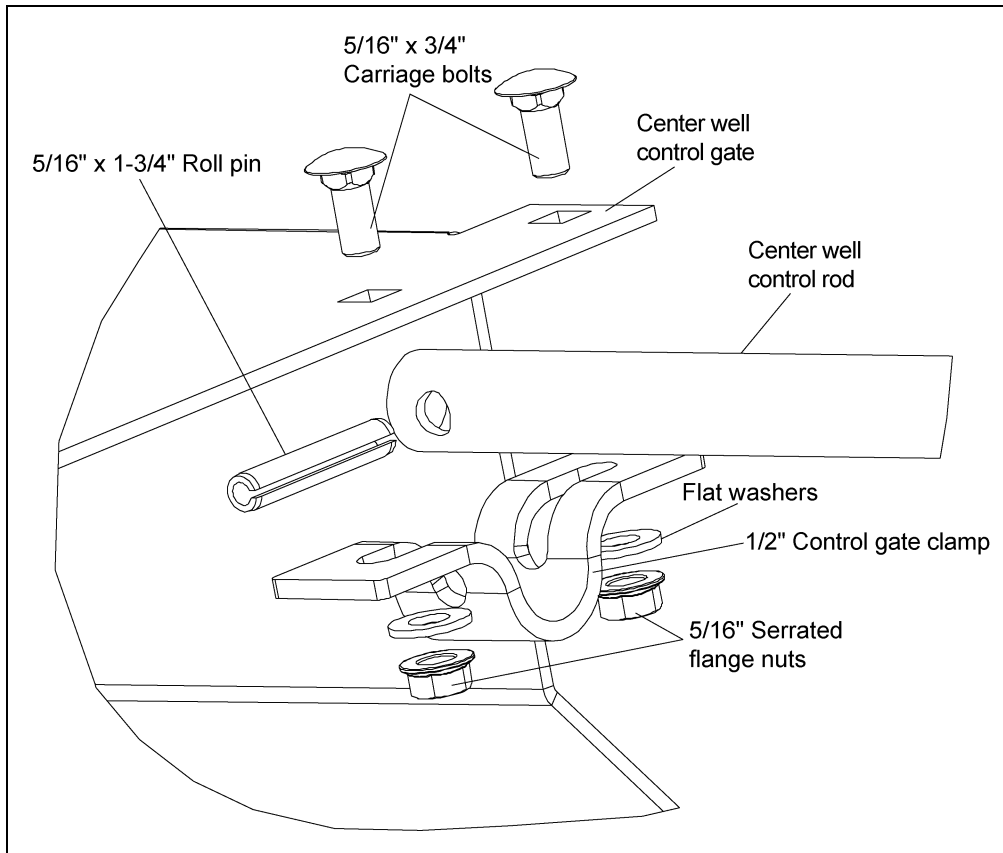

Figure 4N
4. Fasten clamp to bottom side of control gate by using two (2)  $5/16"$  x  $3/4"$  long carriage bolts, flat washers and serrated flange nuts. (See Figure 4N.)